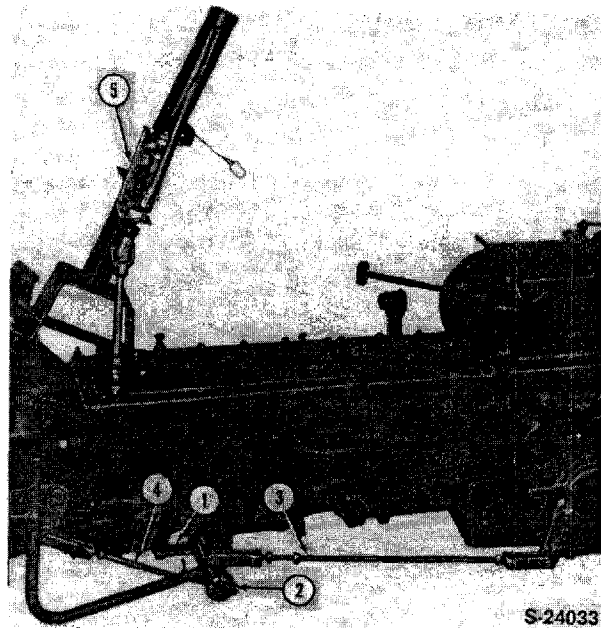

Figure 28
10. Disconnect the clutch pedal rod from the bell crank, Figure 28.
11. Remove the brake cross shaft support bolts and remove the cross shaft and pedals as an assembly, Figure 28.
13. Remove the steering column, shift linkage and throttle control linkage as an assembly, Figure 28.